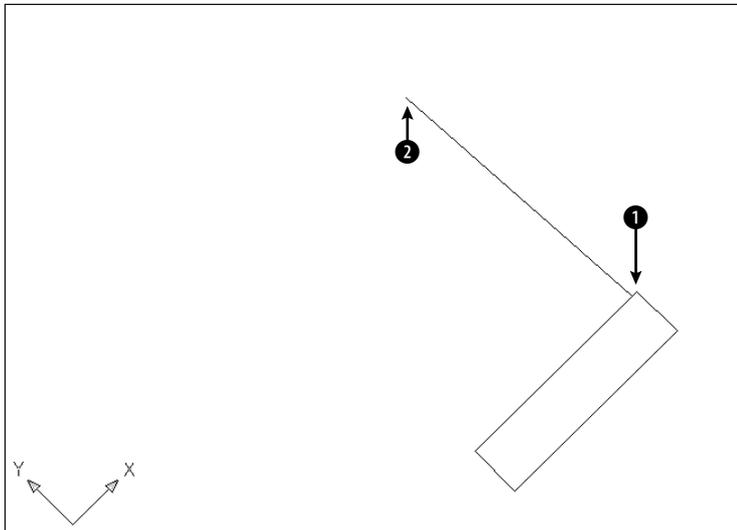

Figure 8-22: Starting to draw the framework for the bearing housing drawn by using a customized UCS.
6. Start the LINE command. At the Specify first point: prompt, choose the From object snap. At the Base point: prompt, use the Endpoint object snap to pick point ❶ in Figure 8-22. At the <Offset>: prompt, type `@-1/8,0` ↵. At the Specify next point or [Undo]: prompt, type `@5-3/16<93.3` ↵. End the LINE command.
Base point: Use the Endpoint object snap to pick point ② in Figure 8-22.